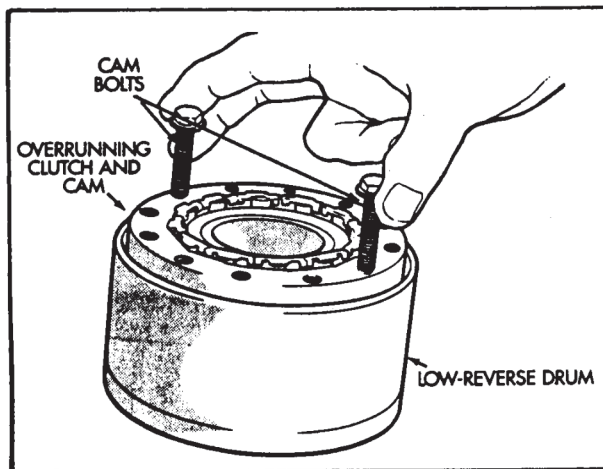

Figure 33
8. If the overrun clutch and cam came out with the low/reverse drum, thread two cam bolts into the cam, as shown in Figure 33.
9. Lift the clutch and cam out of the drum with the bolts (See Figure 33). Rotate the cam if necessary to ease removal.